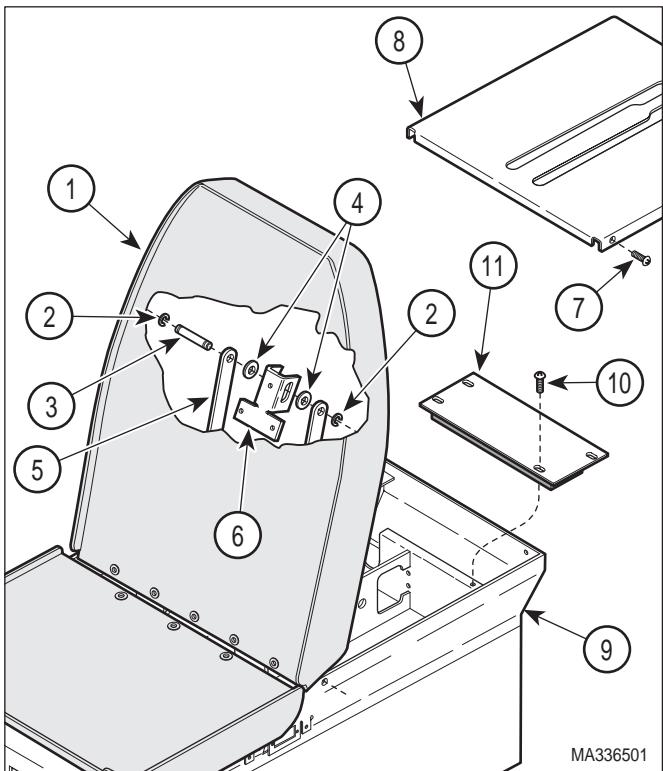
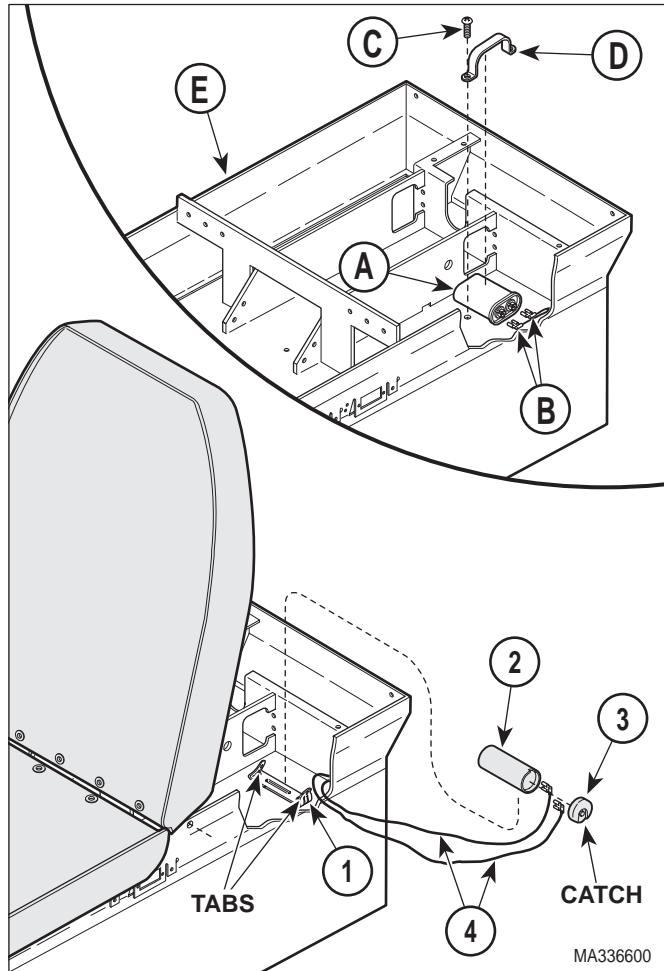

Figure 4-12. Capacitor Access
Figure 4-13. Back Capacitor Removal / Installation
- (3) While supporting back section (1, Figure 4-12), remove two e-rings (2), clevis pin (3), two bearing washers (4), and link bars (5) from back pivot bracket (6).
- (4) Carefully fold the back section (1) over onto the seat section.
- (5) Remove four screws (7) and back cover (8) from upper wrap weldment (9).
Figure 4-13 shows back capacitor mounting position on old style units. The same procedure applies to new style units with capacitor mounted inside motor housing.
- (7) To remove 100 VAC or 120 VAC back capacitor:
- a. Using a screwdriver, pry tab of mounting bracket (1, Figure 4-13) outward and separate back capacitor (2) from mounting bracket.
- b. Remove capacitor cap (3) from back capacitor (2).
- a. Discharge back capacitor (A, Figure 4-13).
- b. Disconnect two wires (B) from terminals of back capacitor (A).
- c. Remove two screws (C), capacitor clamp (D), and back capacitor (A) from upper wrap weldment (E).
- (1) Install 230 VAC back capacitor as follows:
- a. Install back capacitor (A, Figure 4-13) on upper wrap weldment (E) and secure with capacitor clamp (D) and two screws (C).
- b. Connect one wire (B) to each terminal group of back capacitor (A).
- (2) Install 100 VAC and 120 VAC back capacitor as follows:
- a. Connect one wire (4, Figure 4-13) to each terminal group of back capacitor (2).
- b. Install capacitor cap (3) on back capacitor (2).
- c. Position the bottom of back capacitor (2) on mounting bracket (1) and then push the top of the capacitor inward. Using a screwdriver, force the tab of the mounting bracket (1) down over the catch of the capacitor cap (3). Make sure back capacitor (2) is held firmly in place.
- (3) If necessary, install motor cover (11, Figure 4-12) and secure to upper wrap assembly (12) with four screws (10).